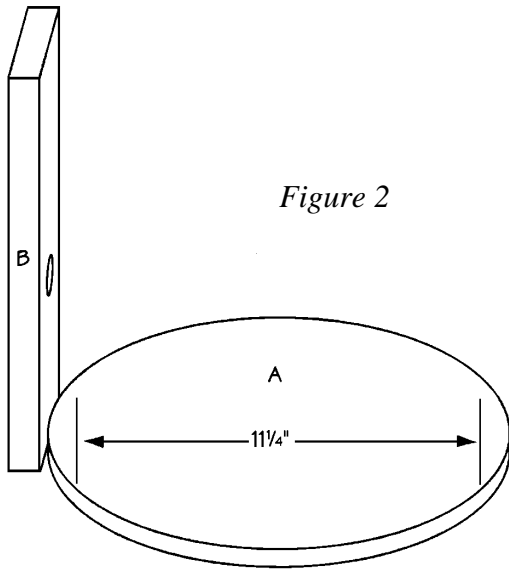

Figure 2
5. Place one top/bottom (A) on a level surface. Attach one wide side (B) to the top/bottom (A). Apply glue to the meeting surfaces, and nail through the mark on the wide side (B) into the edge of the top/bottom (A) using a 1- $\frac{1}{2}$ "-long nail, as shown in *Figure 2*.
6. Place a second wide side (B) next to the first one, so that the inner edges meet. Apply glue to the meeting surfaces, and nail through the wide side (B) into the edge of the top/bottom (A). Continue this procedure to attach the remaining eight wide sides (B) to the top/bottom (A).
7. Cut one narrow side (C) from 1 x 2 pine, measuring 11 inches. Mark the exact center of the width, $\frac{3}{8}$ -inch from each end.
8. Attach the narrow side (C) to the top/bottom (A) in the space remaining between the first and last wide sides (B). Apply glue to the meeting surfaces, and nail through the mark in the narrow side (C) into the top/bottom (A).
9. Place the remaining top/bottom (A) on a level surface. Turn the house assembly upside-down, and fit the narrow and wide sides (B and C) over the remaining top/bottom (A). Apply glue to the meeting surfaces, and nail through the marks to attach each of the sides (B and C) to the top/bottom (A).